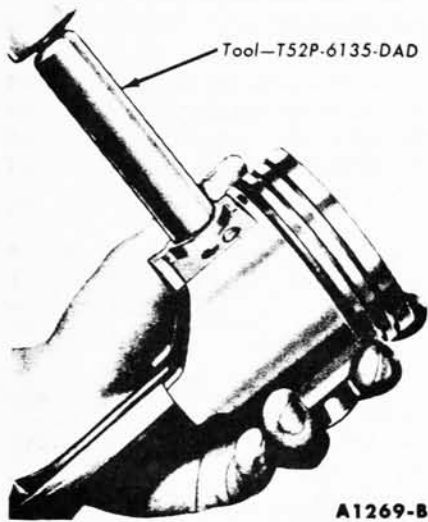

FIG. 70—Piston Pin Removal
2. Remove the piston rings. Remove the piston pin retainers. Drive the pin out of the piston and connecting rod (Fig. 70). Discard the retainers.